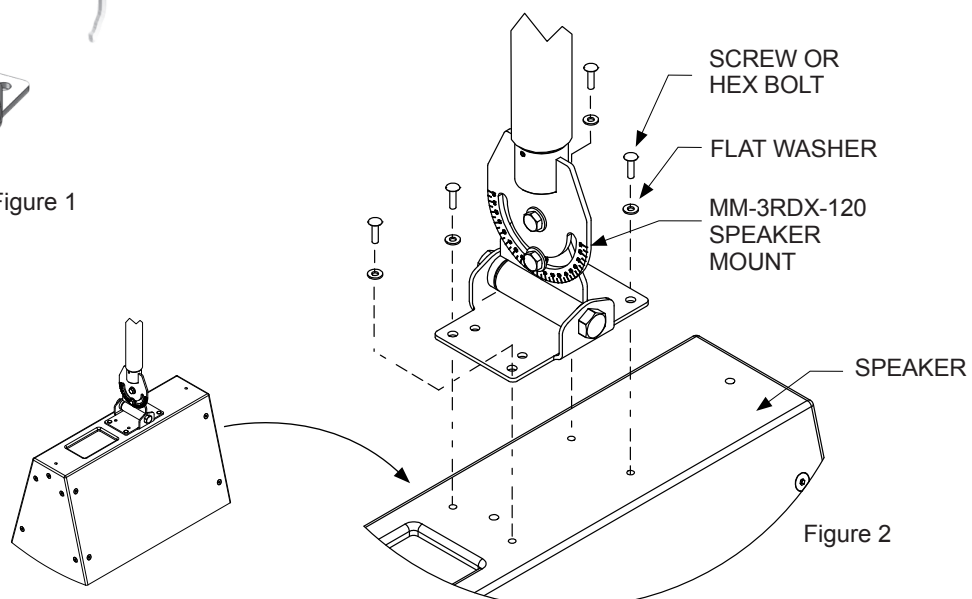

Figure 2
Step 3: Secure speaker to the speaker adapter plate. Pull a sufficient length of signal wire and safety cable to reach the speaker's terminal block and safety cable anchor point. Align the speaker's four mounting points with the mount's matching hole pattern. Use the speaker manufacturer's recommended fasteners; tighten fasteners permanently through the mount and into the speaker cabinet (Figure 2).